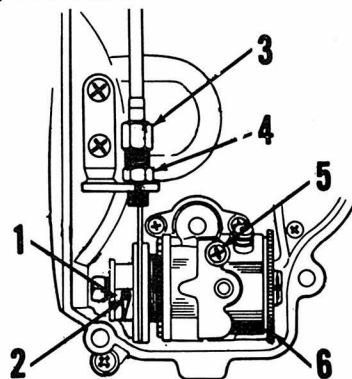
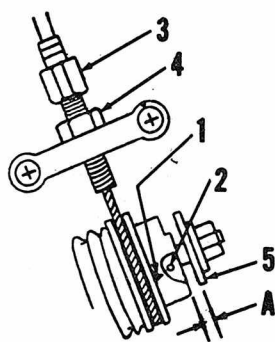

Fig. Y13-4—View of oil pump and cable adjustment points.
Fig. Y13-5—Clearance (A) between adjusting pulley and adjusting plate should be at least 0.006 inch.
The engine is lubricated by an automatic oil metering system. Amount of oil is controlled by engine speed and throttle opening. Minimum pump stroke is checked by inserting feeler gage between adjusting plate and adjusting pulley of oil pump. Turn starter plate (6—Fig. Y13-4) until gap is observed. Gap should be at least 0.006 inch. Adjust pump stroke by adding or removing shims under adjusting plate (5—Fig. Y13-5). Throttle should be fully closed during this check.
Throttle cable should have approximately  $\frac{1}{16}$  inch free play when closed. Adjust the oil pump so that mark on the adjusting pulley (1—Fig. Y13-5) is lined up with the guide pin (2) when the "O" marked on throttle slide is just touching upper bore of carburetor. Pump is adjusted by turning adjusting screw (3) after loosening lock nut (4). If oil pump is re-